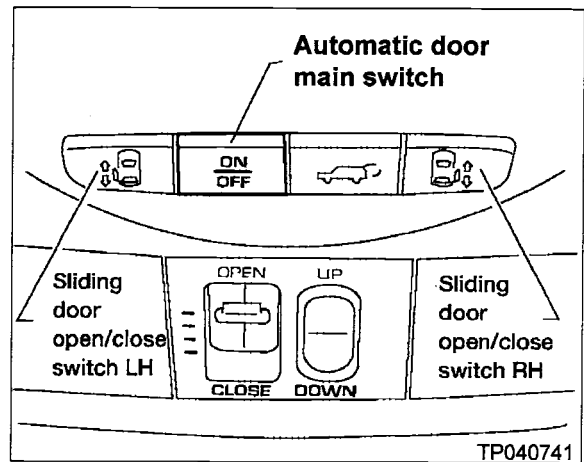

Figure 22
- You should hear three (3) sliding door warning chimes.
52. Turn the Automatic Door Main Switch ON (see Figure 22).